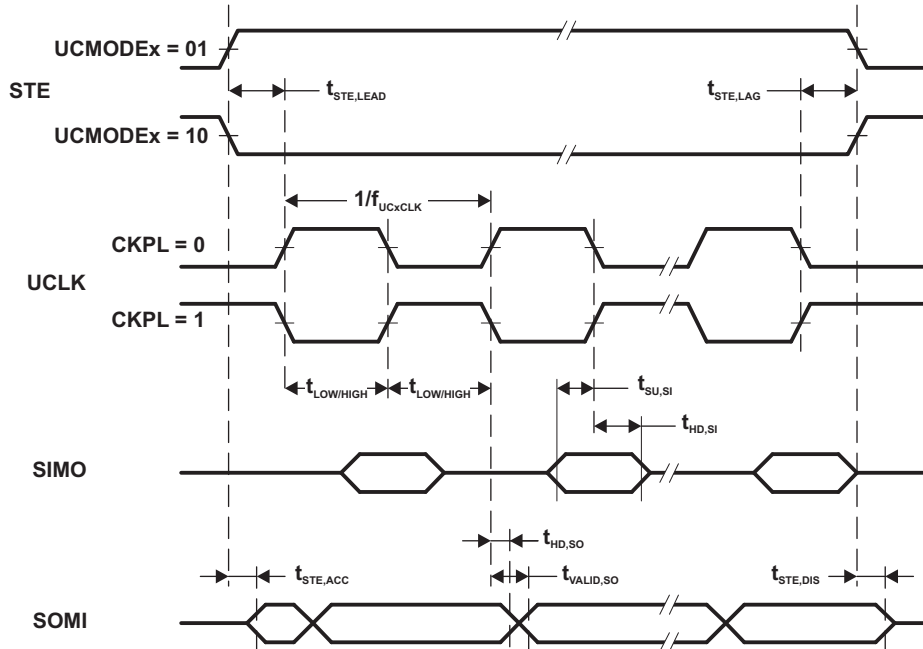
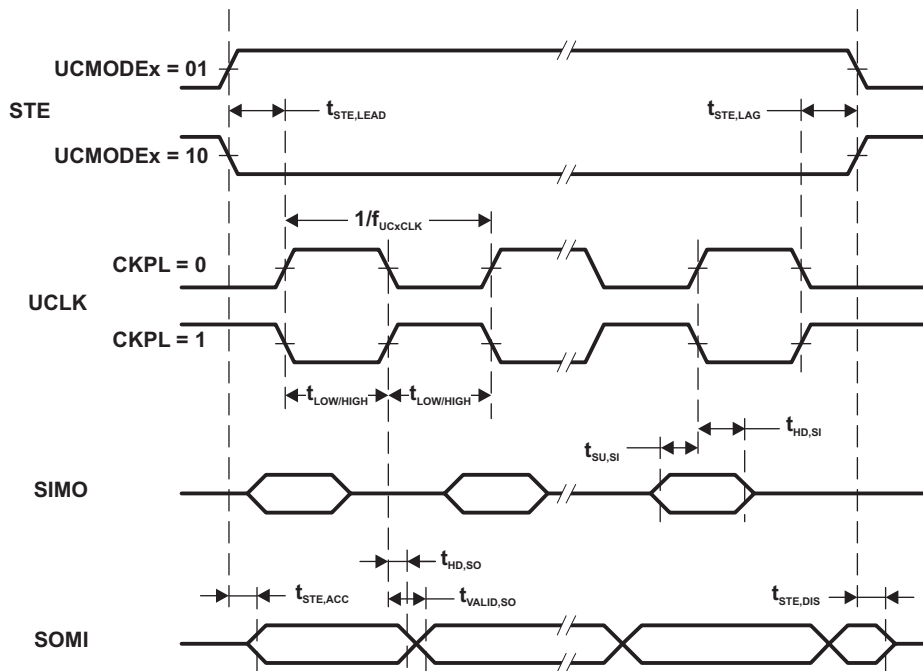

Figure 5-16. SPI Slave Mode, CKPH = 0
Figure 5-17. SPI Slave Mode, CKPH = 1
- (2) Specifies the time to drive the next valid data to the SOMI output after the output changing UCLK clock edge. Refer to the timing diagrams in Figure 5-16 and Figure 5-17.
- (3) Specifies how long data on the SOMI output is valid after the output changing UCLK clock edge. Refer to the timing diagrams in Figure 5-16 and Figure 5-17.